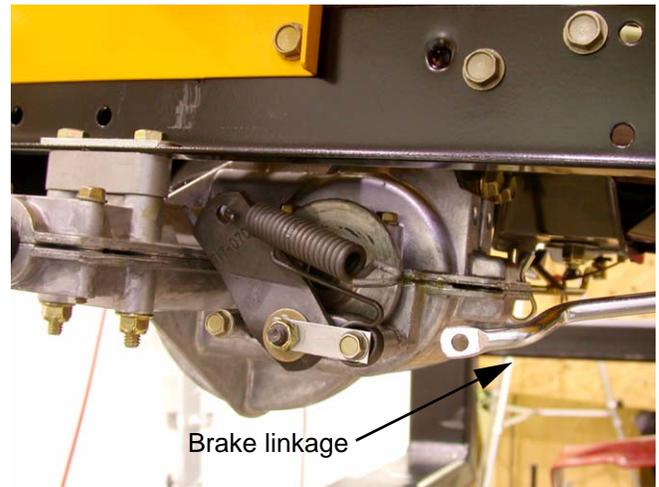

Figure 21.7
21.7. Disconnect the brake linkage where it connects to the brake spring. See Figure 21.7.